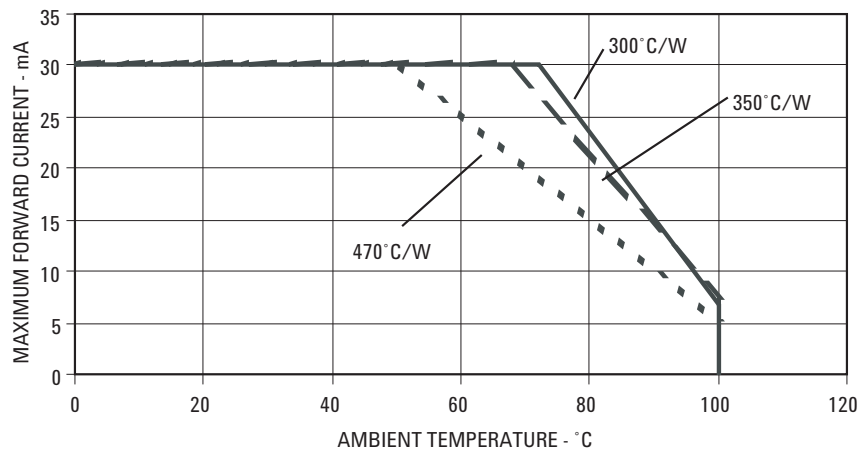

Figure 3. Maximum Forward Current Vs. Ambient Temperature. Derated Based on  $T_{JMAX} = 110^{\circ}\text{C}$ .
1. Derate linearly as shown in Figure 3